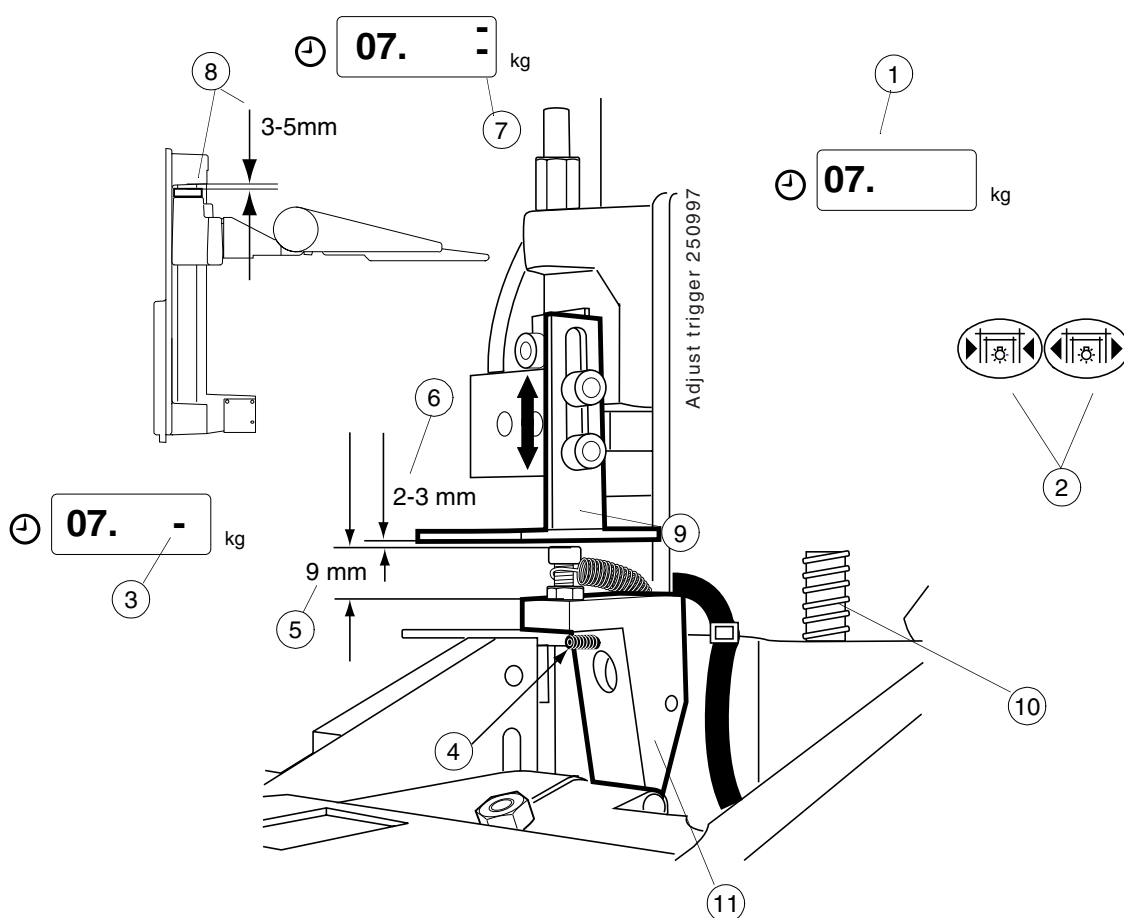

Figure F.24
- Enter the service mode and select the display of internal signals mode 07 (Fig. F.24, 1).
- Drive the upper compression paddle mechanism with the field/light keys (Fig. F.24, 2) so that only the right middle signal is lit (Fig. F.24, 3).
- Adjust the paddle tilting sensitivity with the holding screw (Fig. F.24, 4). The paddle should be released by pushing it lightly.
- Adjust the height of the spring holder screw to 9mm (Fig. F.24, 5).
- Adjust the distance between the spring holder screw and the releasing plate to 2-3mm (Fig. F.24, 6).
- Drive the upper compression paddle mechanism upwards so that both the right upper and the right middle signals are lit (Fig. F.24, 7). The distance between the upper compression paddle mechanism and the upper mechanical limit must be 3-5mm (Fig. F.24, 8).
- Move the upper compression paddle mechanism to the mechanical limit by rotating the bearing screw (Fig. F.24, 10). The trigger (Fig. F.24, 11) must still be movable.
**NOTE** *Wrong adjustment of the spring holder screw (Fig. F.24, 5) may cause the twincomp latch assembly to hit and damage the bracket's edge (Fig. F.24, 9).*